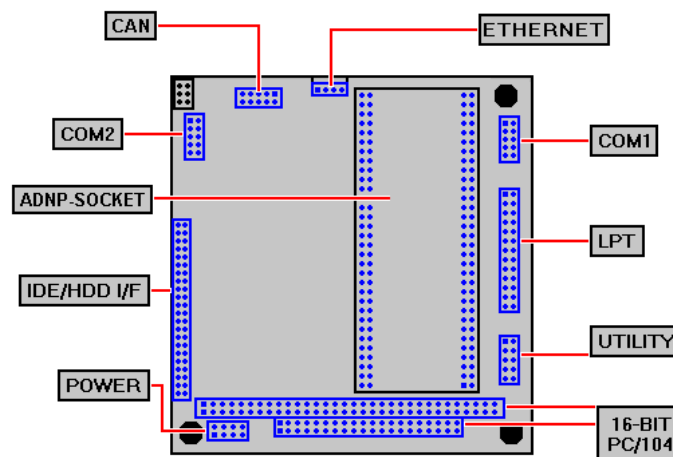

Figure 2: Connectors of the CP/486SX2 base board
Figure 2 shows the connectors of the Base Board. The position and pin assignment is largely compatible to the SSV-PC/104 Single Board Computers (SBCs). The CP/486SX2 owns an additional 3.3V power supply, which generate the 3.3V supply voltage for the ADNP/1486 from the PC/104 typical input
- Figure 2: Connectors of the CP/486SX2 base board